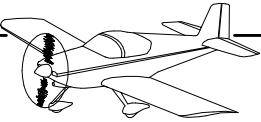

**FIGURE 3: TIP RIB ISO VIEW
Step 7: Machine countersink the W-1016-L Tip Rib attach holes in the W-1015-L Wing Tip for the head of an AN426AD3 rivet. Remove and deburr the wing tip rib. Prime the tip rib if/as desired. Clean out any debris from the wing tip. Rivet the wing tip rib to the wing tip per the callout in Figure 3.